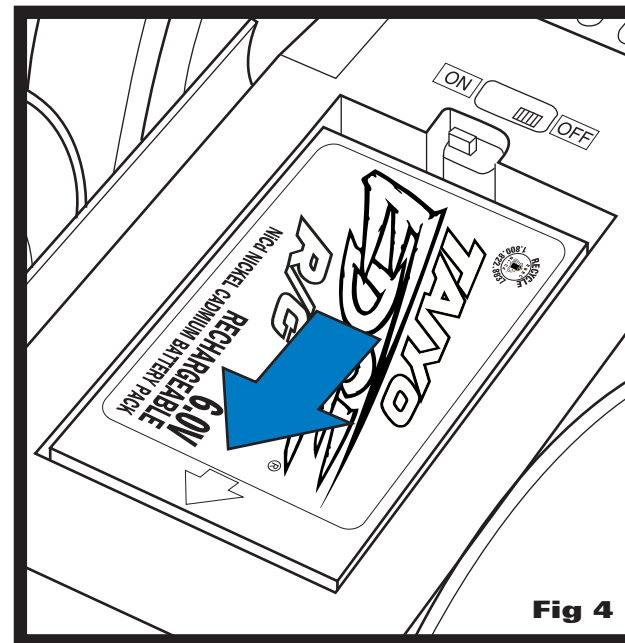

Fig 4
3. Slide BATTERY PACK all the way in direction of ARROW (toward back of vehicle) until it stops. (Fig. 4)